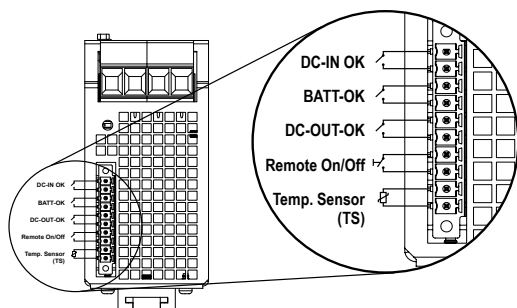

Figure 2 – Signal Connector Pinout (Bottom of Unit)
8. If used, the temperature sensor should now be fixed to the battery and connected to the TS input on the BCM (Figure 2).
The PSH-BCM360S module provides three signals to the user as an indication of the status of the unit; these signals are made available as LED indicators and corresponding isolated relay contacts (Figure 2) and are as follows.